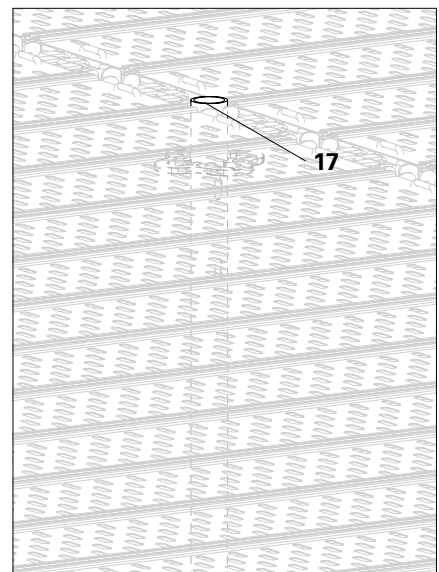

Fig. A2.05b
A deck surface without protruding pipe ends can be created using the Top Standard EVT 96 (17) or Top Standard EVOTOP EVT 96 (18). (Fig. A2.05b)